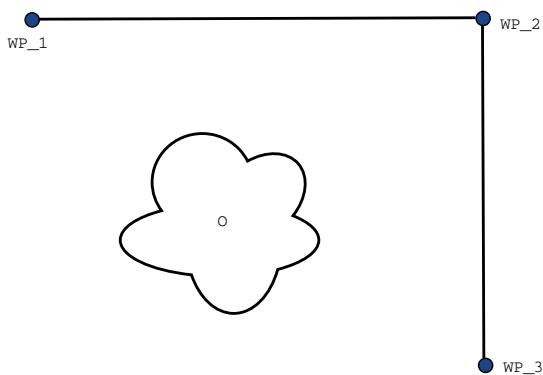

Figure 15.2: WP\_1: initial position, WP\_2: via point, WP\_3: pick up position, 0: obstacle.
**Example** Consider a pick and place application as an example (see figure 15.2), where the robot is currently at Waypoint 1 (WP\_1), and it needs to pick up an object at Waypoint 3 (WP\_3). To avoid collisions with the object and other obstacles (0), the robot must approach WP\_3 in the direction coming from Waypoint 2 (WP\_2). So three waypoints are introduced to create a path that fulfills the requirements.